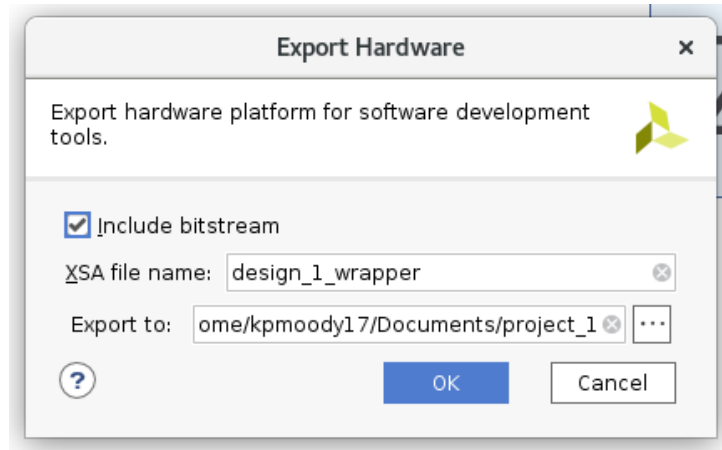

Figure 4
8. After the bitstream has been compiled, click on “File” in the upper left of the GUI and select “Export Hardware...” from the “Export” option toward the bottom of the drop down menu. In the window that comes up, check the “Include bitstream” box as shown in Figure 4 and click “OK.” This step will **create the HDF or XSA file** that we want. (Vivado 2019.2 will create an XSA by default, while earlier versions of Vivado create an HDF.) Take note of where the output will be saved.